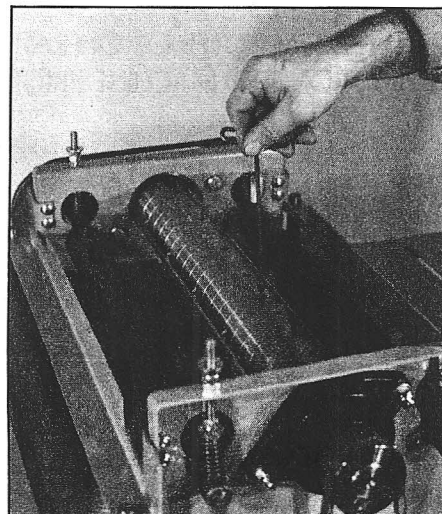

Fig. 9
4. Start two of the cap screws in the threaded holes in the gib and tighten them. This will raise the gib in the slot and unlock it. (fig. 9)